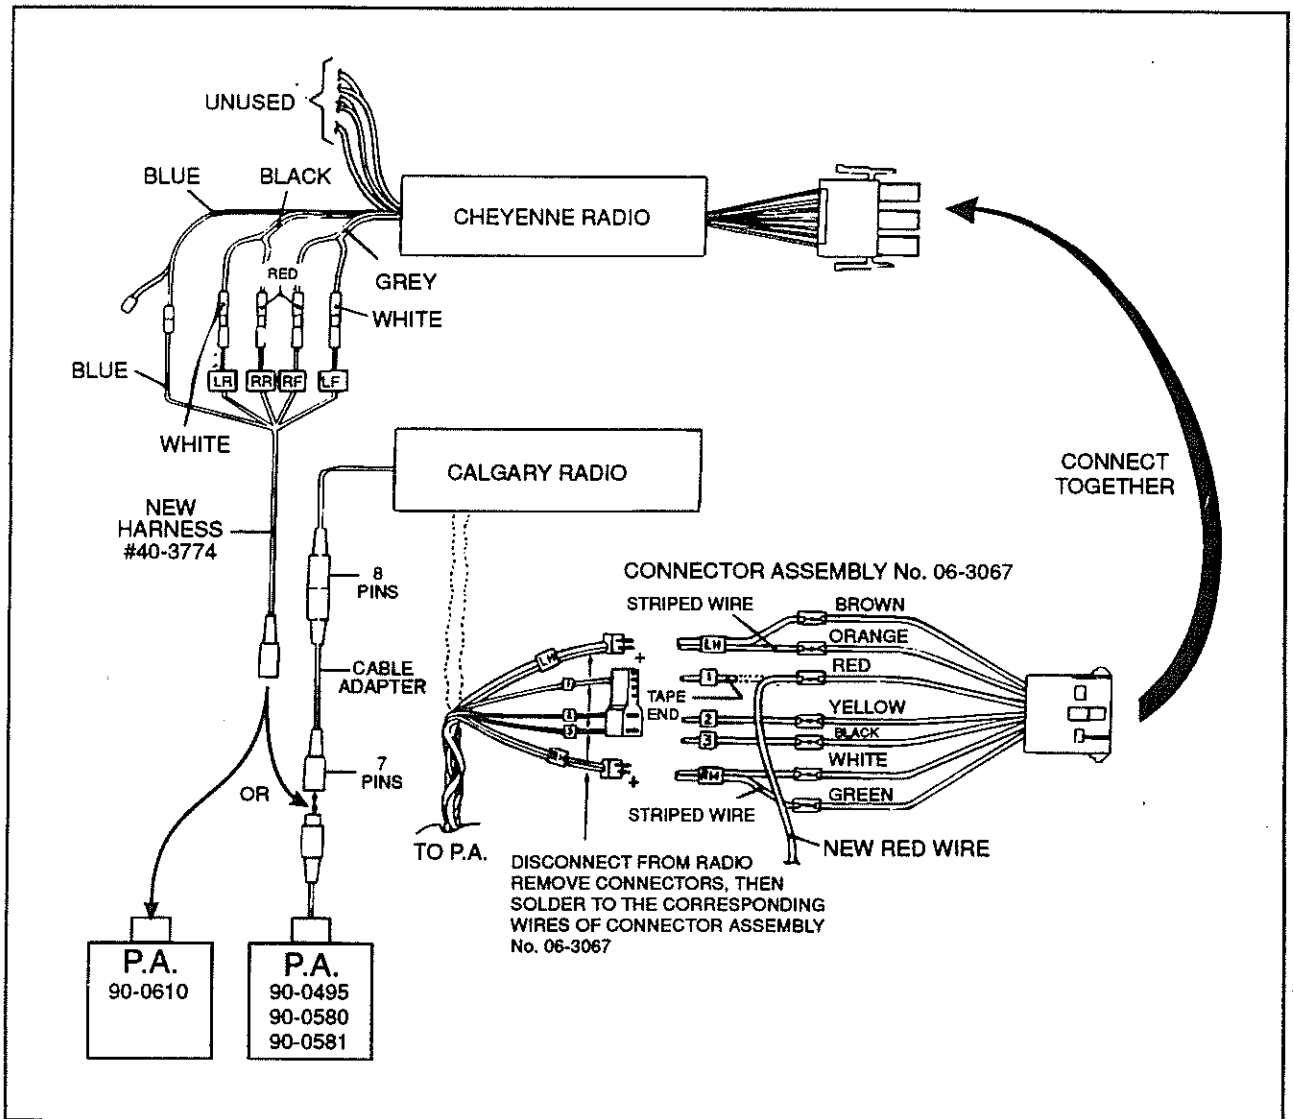

Fig. 7
2. Connect each wire on the other end of wire harness to the corresponding wire of "Cheyenne" radio according to the color code in figure 7.
8. Join and solder each wire of connector assembly #06-3067 to the previously stripped wires according to the color code in figure 7. The red wire of connector assembly must be soldered with the red wire (#16 AWG) supplied with kit.